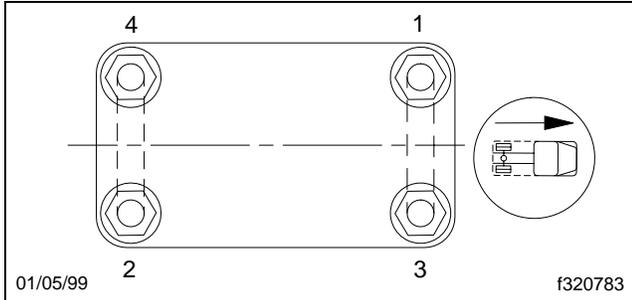

Fig. 2, U-Bolt Nut Tightening Sequence
- 18.3 Replace the second U-bolt on the left side, and evenly tighten the U-bolts 60 lbf·ft (81 N·m) in the sequence shown in **Fig. 2**.